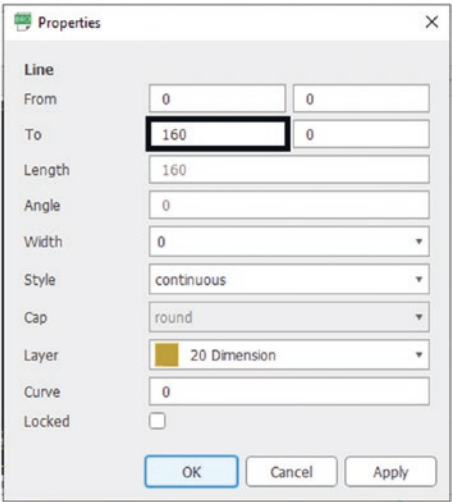

Figure 7-4. *Horizontal length*
3. The size of the NatBot will be 160mm by 100mm, which is the initial board size that Eagle starts with, so you should not have to change these dimensions. See Figures 7-4 and 7-5.